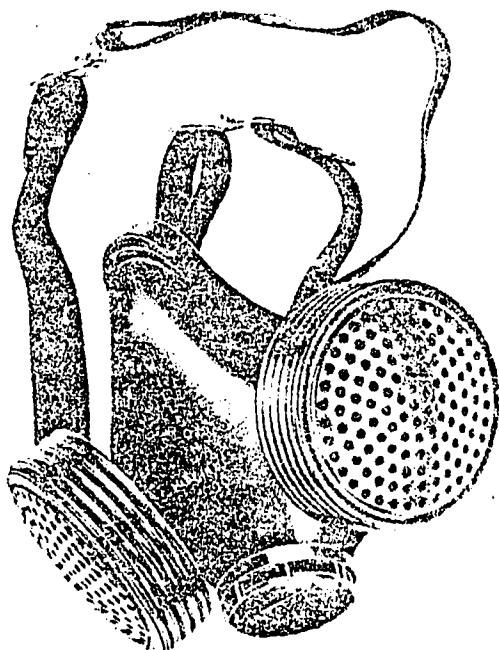

Figure 2. Chemical Cartridge Respirator.
b. Chemical cartridge respirators for protection against fumes and solvent vapors. These respirators contain activated carbon cartridges which absorb the fumes or vapors. (See Figure 2.)